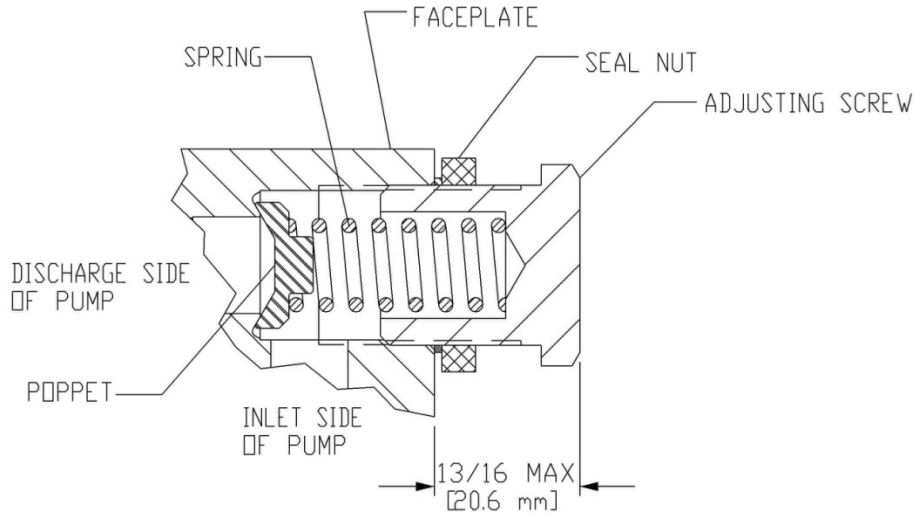

Figure 7-1: Relief Valve for A05-A03
3. Loosen adjusting screw to max dimension shown in **Figure 7-1: Relief Valve for A005-A03** or **Figure 7-2: Relief Valve for A06-A40**.
Refer to drawings shown in **Figure 7-1: Relief Valve for A005-A03** or **Figure 7-2: Relief Valve for A06-A40**.